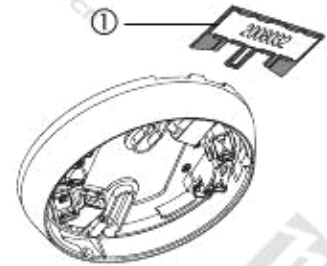

Fig. 7
- **Designation plate FDBZ291 (Fig. 7)**